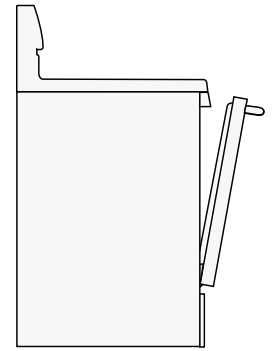

Fig. 2
- For bone-in ham or lamb, insert the probe into the center of lowest large muscle or joint. For dishes such as meat loaf or casseroles, insert the probe into center of food. (See Fig. 2).
1. Prepare food and properly insert the probe sensor into the middle portion of the food (See Figs. 2 & 3). The probe should be inserted into the food before starting the cooking process and while the oven is still cool.
6. **Leave oven door open** at broil stop position (Fig. 2).